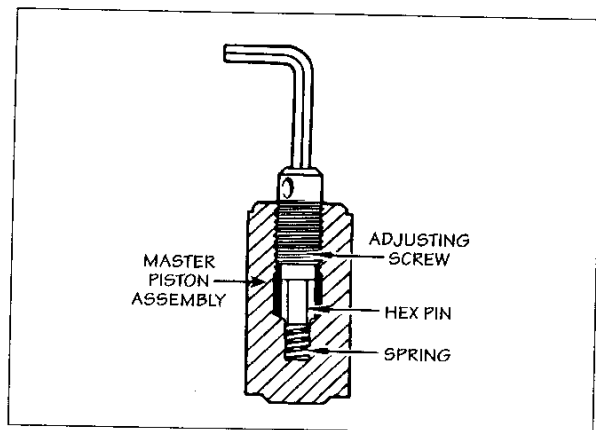

FIG. 1.5.13
- C. Push down on the hex key wrench. This unlocks the adjusting screw from the hex pin (see Figs. 1.5.13 and 1.5.14, next page).